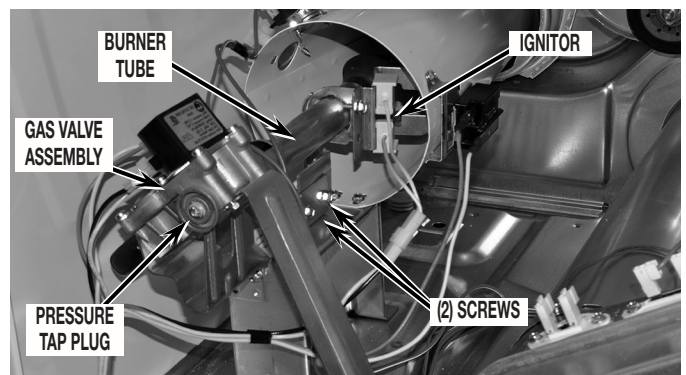

FIGURE 1B
- Disconnect ignitor wires from harness then remove the burner tube by removing the two (2) screws securing it to the burner base. See Figure 1B; then continue to "Determining Gas Valve Style" – "Changing the Orifice."